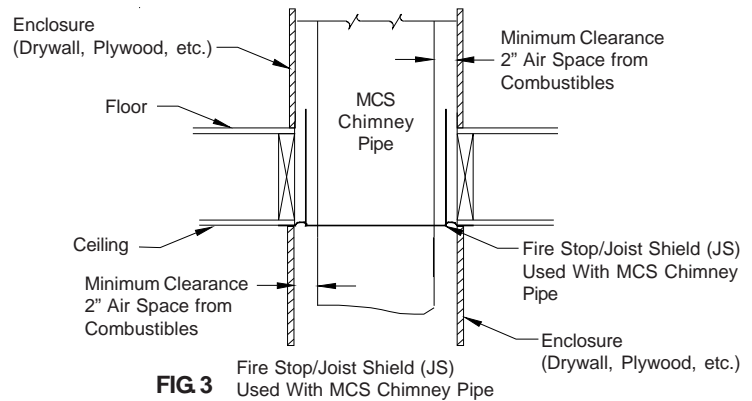

FIG 3
The Fire Stop/Joist Shield (JS) may be either under the ceiling or between the finish ceiling and the joists (see Fig. 3).